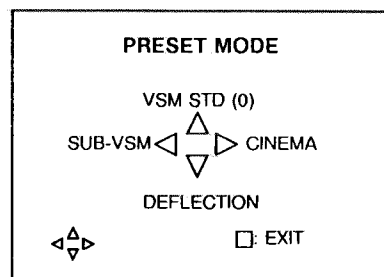

Fig. 1
- 2) The preset mode screen indicated in Fig. 1 is displayed.